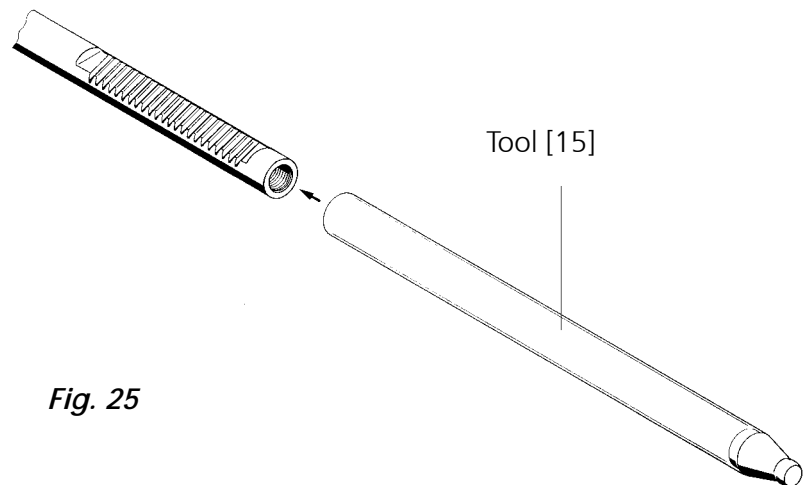

Fig. 25
Slip tool [15] on the rack (30) (see Fig. 25).